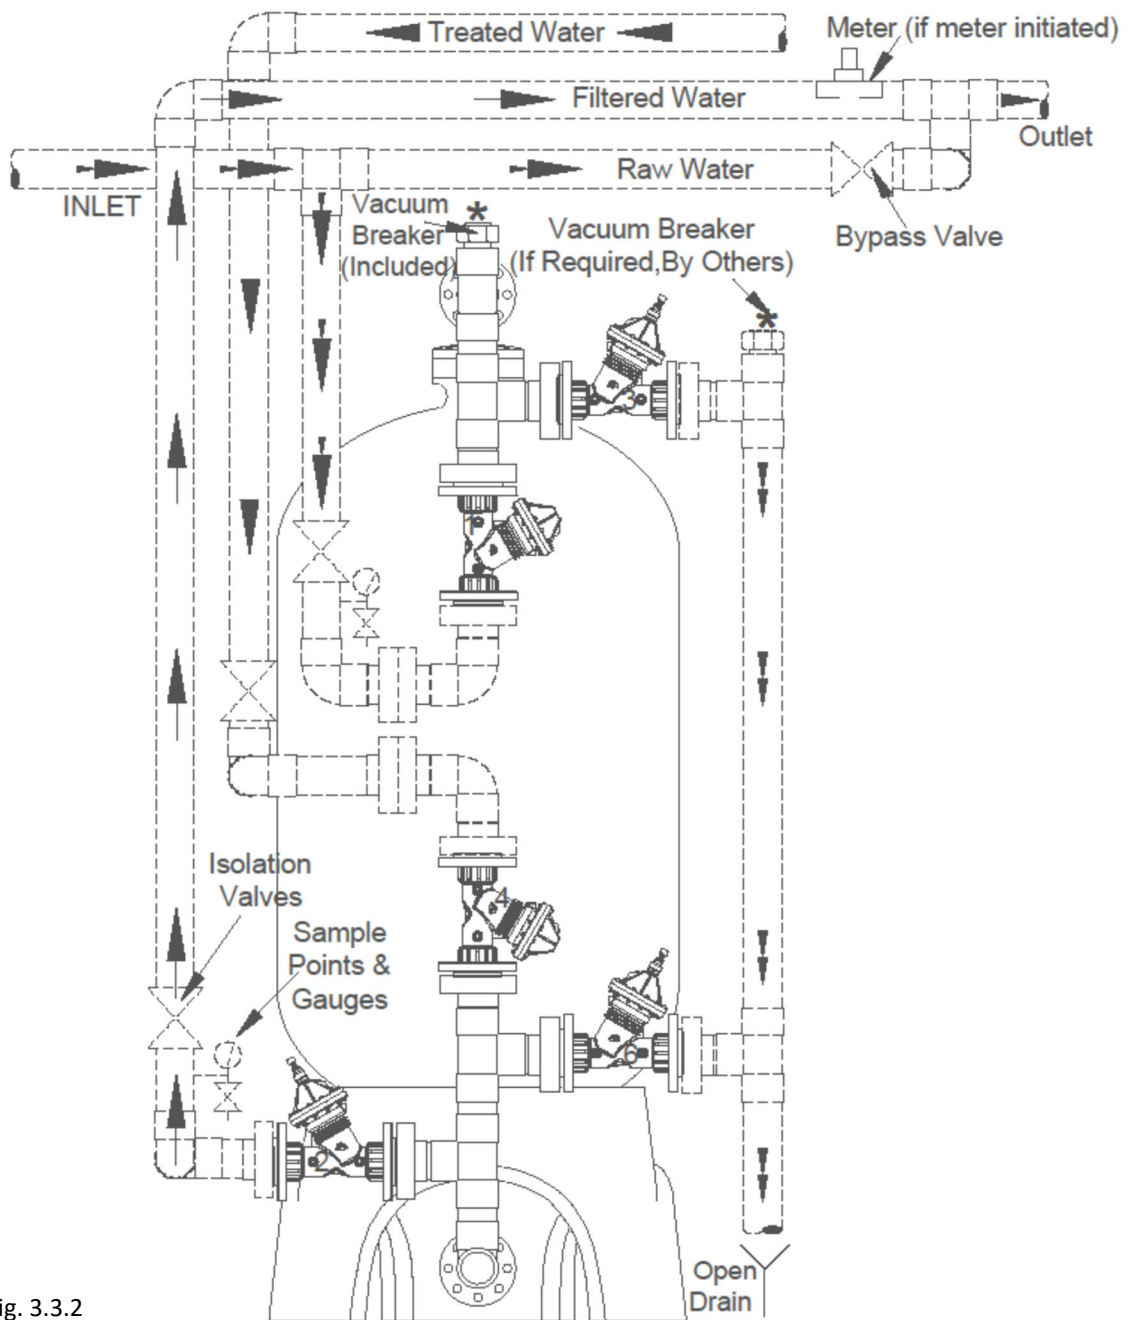
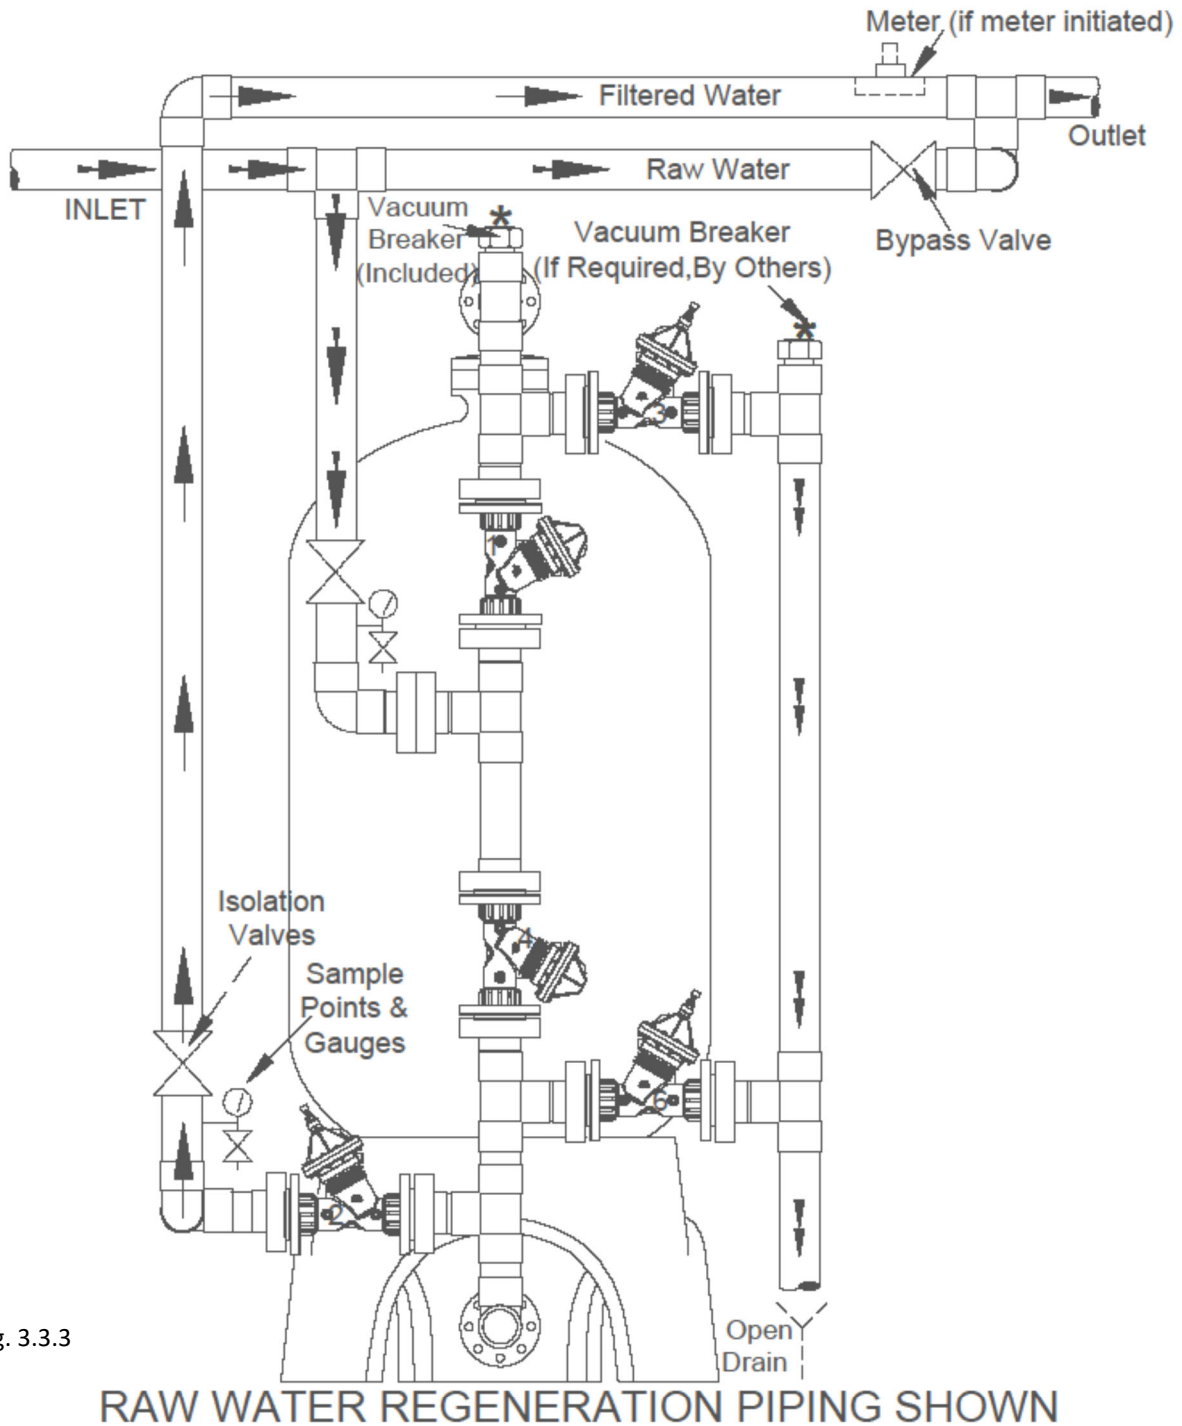
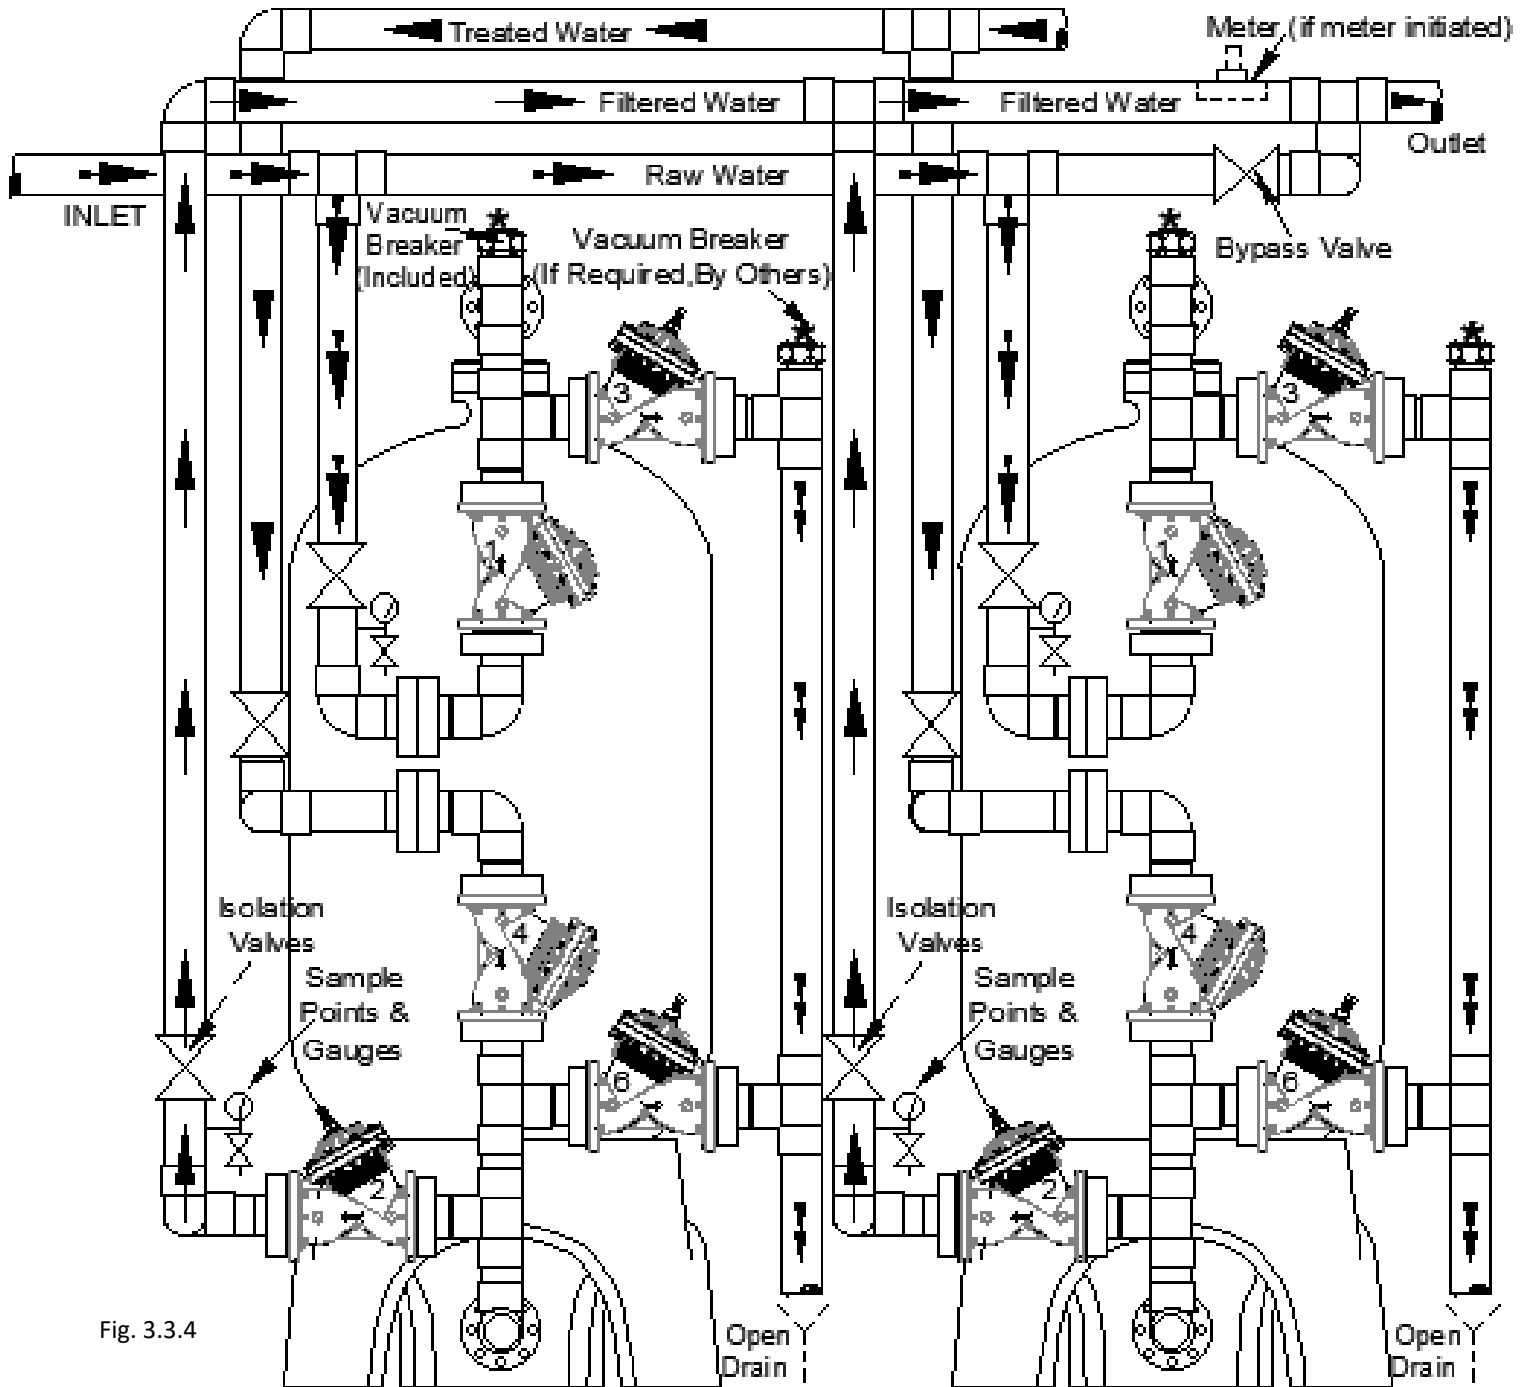

Fig. 3.3.2
Fig. 3.3.3
Fig. 3.3.4
-Figure 3.3.2 shown shows the typical treated water backwash piping for a single filter unit. Please note all standard FMVS filter systems can be piped for raw water (see fig. 3.3.3) or treated water backwash simply by supplying a separate backwash water source.
-Figure 3.3.3 shown shows the typical piping for a raw water regeneration single filter unit.
-Figure 3.3.4 shown shows the typical treated water backwash piping for a duplex filter unit. Please note all standard FMVS filter systems can be piped for raw water (see fig. 3.3.2) or treated water backwash simply by supplying a separate backwash water source.
-Figure 3.3.5 shown shows the typical treated water backwash piping for a triplex filter unit. Please note all standard FMVS filter systems can be piped for raw water (see fig. 3.3.2) or treated water backwash simply by supplying a separate backwash water source.
-Figure 3.3.6 shown shows the typical treated water backwash piping for a quadplex filter unit. Please note all standard FMVS filter systems can be piped for raw water (see fig. 3.3.2) or treated water backwash simply by suppling a separate backwash water source.